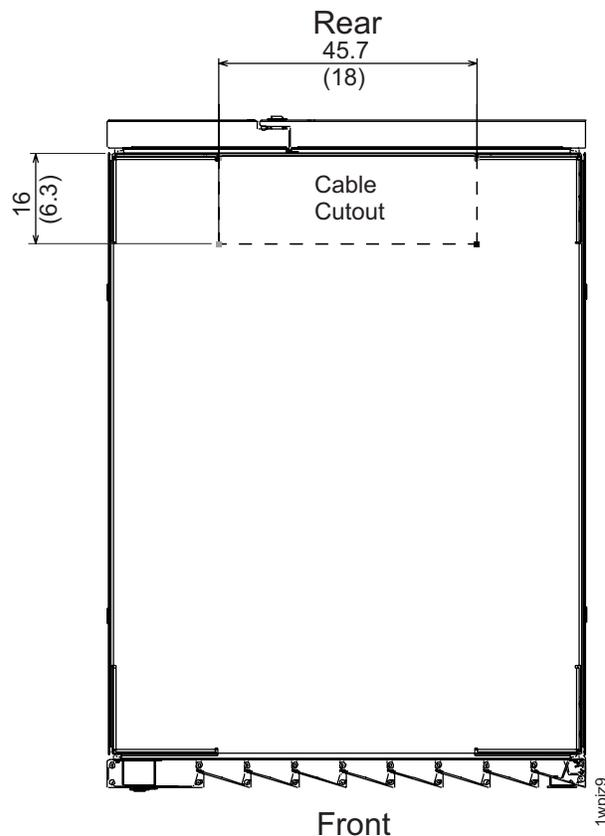

Figure 23. Cable cutouts for a DS8000 unit.
1. Based on your planned storage unit layout, ensure that you can accommodate the locations of the cables exiting each unit. See Figure 23 for the location of the cable cutouts.